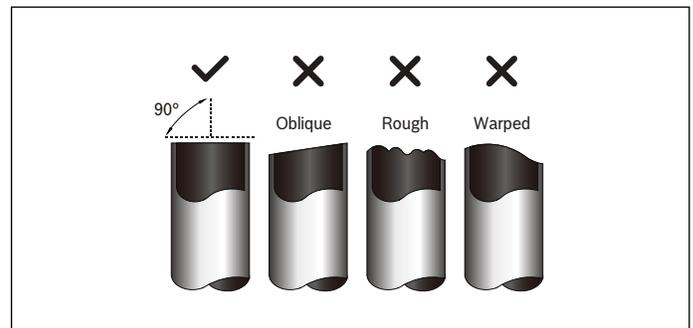

Figure 27
- Make sure that the pipe is cut at a perfect 90° angle. Refer to Fig.27 for cut examples.